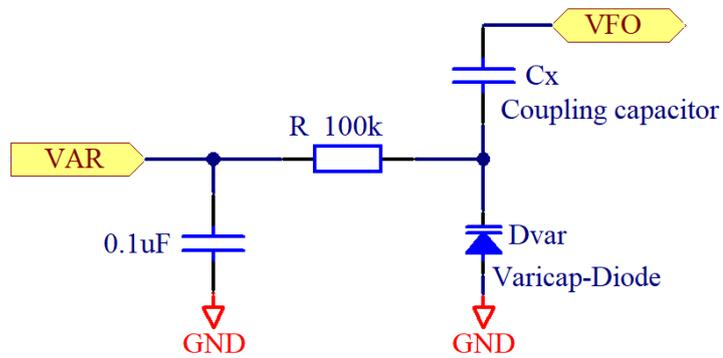

Figure 5 - Varactor Circuit
- (7) Build the varactor circuit as shown in Figure 5 on a small perf board. Use a SB-104A selected value of 6-9pF for the coupling capacitor.